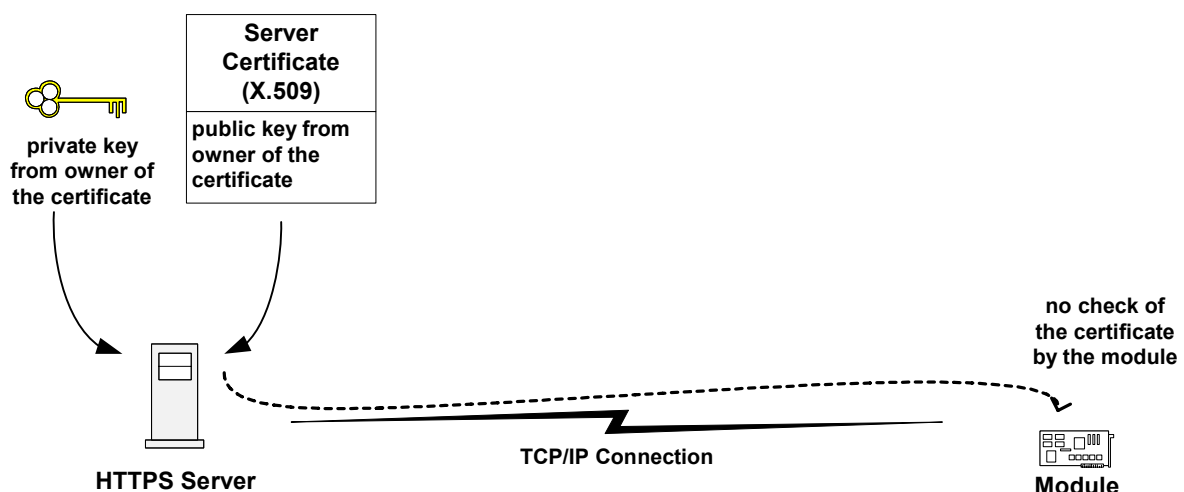

Figure 54: Mode 1 – Customer Root Certificate does not exist
- No examination of the server certificate takes place when setting up the connection. The authenticity of the server certificate is not verified. (Figure 54: Mode 1 – Customer Root Certificate does not exist)